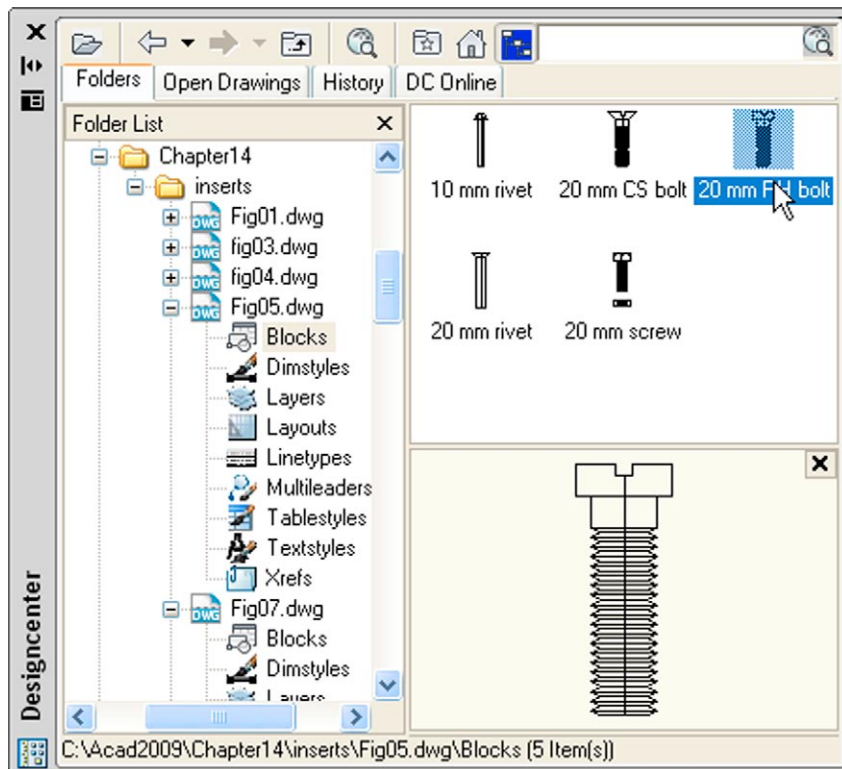

Fig. 14.6 Second example – a library of fastenings
### Second example – a library of fastenings (Fig. 14.6)
- Open the DesignCenter, *click* on the **Chapter 14** directory, followed by a *click* on **Fig05.dwg**. Then *click* again on **Blocks** in the content list of **Fig05.dwg**. The five 3D models of fastenings appear as icons in the right-hand side of the DesignCenter (Fig. 14.6).